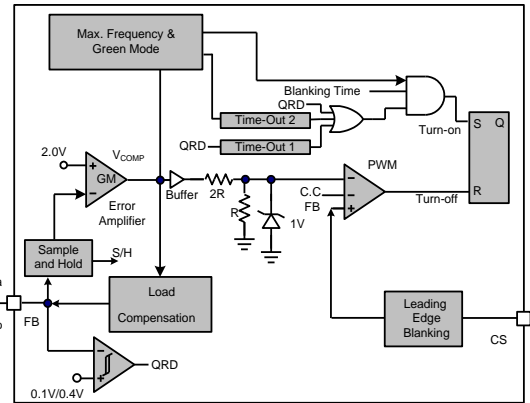

Fig. 20
The LD7513A employs quasi-resonant (QR) switching scheme to switch in valley-mode either in CV or CC operation. This will greatly reduce the switching loss and the ratio  $dv/dt$  in the entire operating range for the power supply. Fig. 20 shows the typical QR detection block. The QR detection block will detect auxiliary winding signal to drive BJT as FB pin voltage drops to 0.1V. The QR comparator will not activate if FB pin voltage remains above 0.4V.